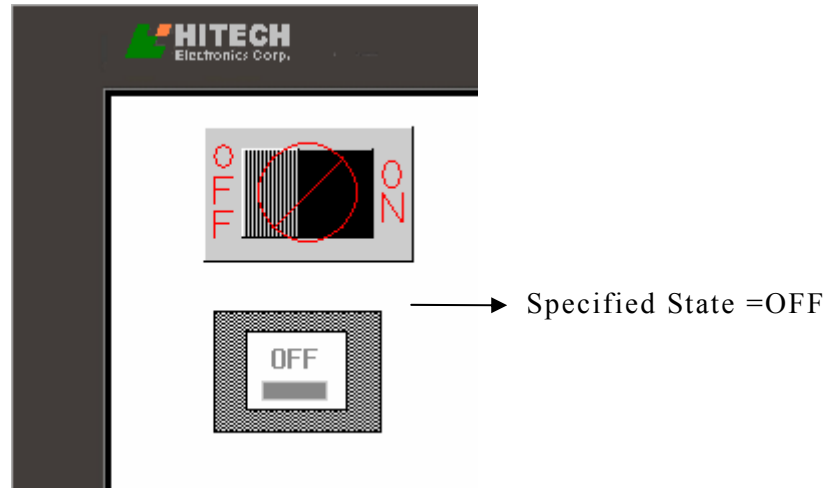
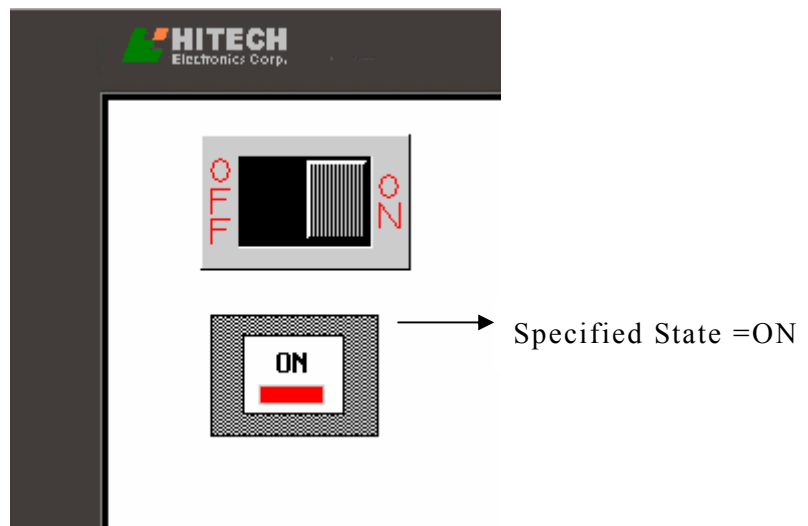

Figure 98. Specified State =OFF, inapplicable object with label
Figure 99. Specified State =ON
- ◆ [Enabled By]: Specify the PLC register to ON button. This is inapplicable on OFF state labeled ; See Figure 98. This is only applicable on ON state; See Figure 99. *(This feature is only applicable on objects with input text/numeric or specific state.)*